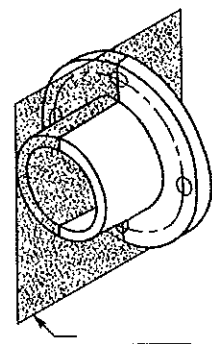

Fig 1.1
4. What does this plane called as shown in fig 1.1?